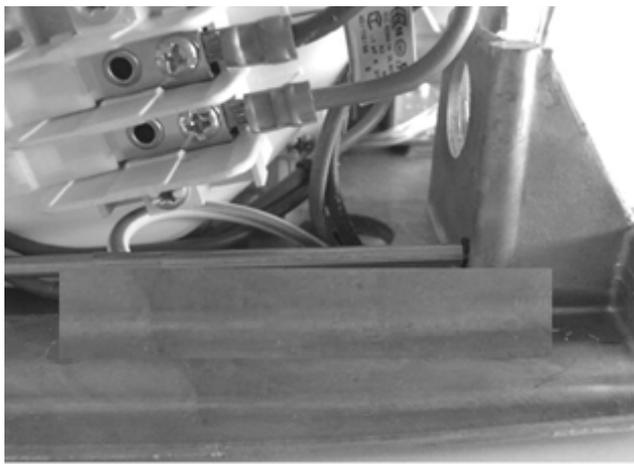

Fig.5
6. Insert the electrical cable into the bushing mounted on the base of the appliance and tighten until it locks permanently, connect the electrical cables L – N to the terminal block (fig.5).